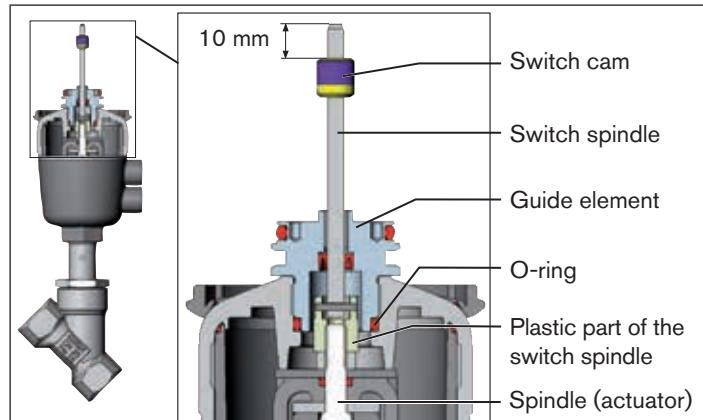

Fig. 11: Installation of the switch spindle (2), series 20xx
- Press the O-ring downwards into the cover of the actuator (see "Fig. 11").
- Position the switch cam on the switch spindle so that the distance between the switch cam and top of the spindle is 10 mm (see "Fig. 11").